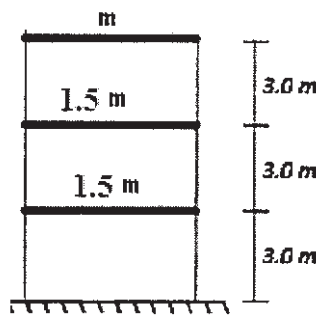

Figure6.1
**Q6)** Calculate the distribution of base shear at each floor level as per seismic coefficient method for the OMF with brick infill building shown in Fig. 6.1. The building is located in Zone V. The frames are spaced at 4m c/c. Assume  $m = 3000\text{kg}$  and soil of Type III. [18]